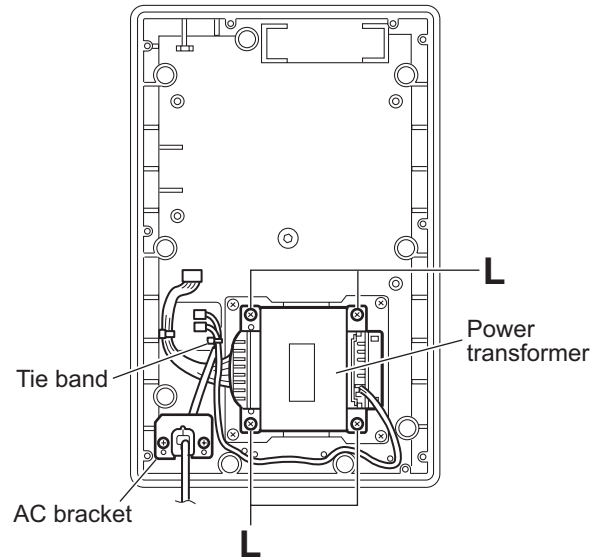

Fig.11
3.3.8 Removing the power transformer (See Fig.11)